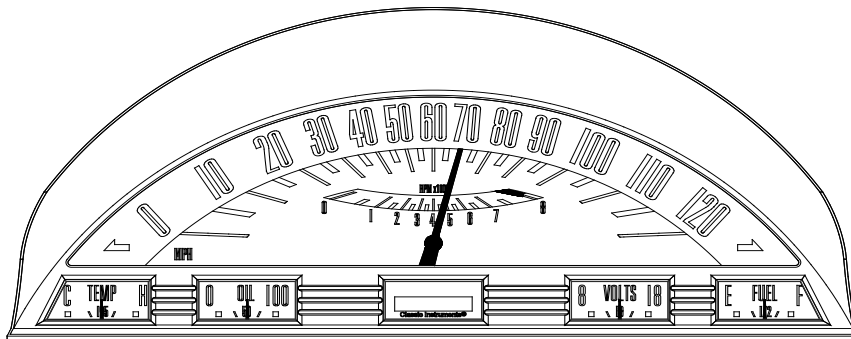

FIG. 4
- 5) If you are finished making setup changes, press and hold the pushbutton with the tachometer pointing to 8000 RPM to exit setup mode. **Fig. 4**